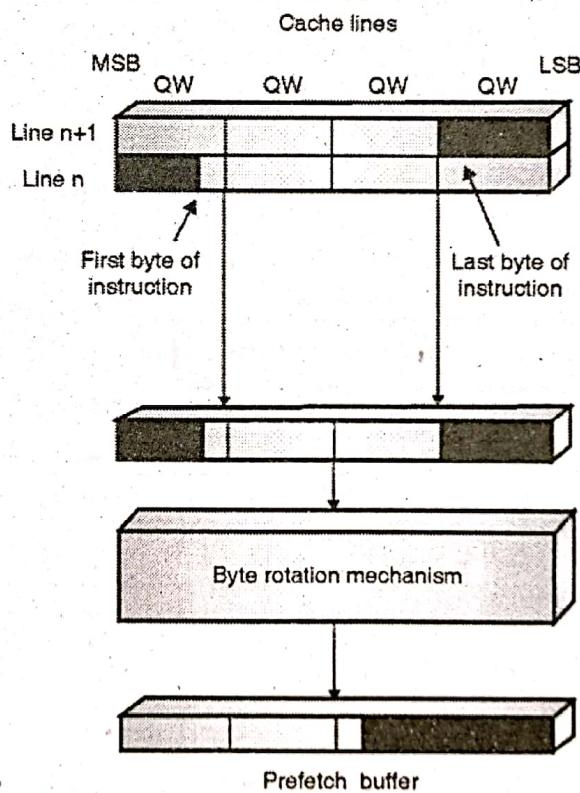

Fig. 5-Q. 2(b) : Split line access
- (v) These bytes of the instruction must be rotated so that the prefetch queue receives the instruction in the proper order. This is done by a byte rotation mechanism as shown in the Fig. 5-Q. 2(b).